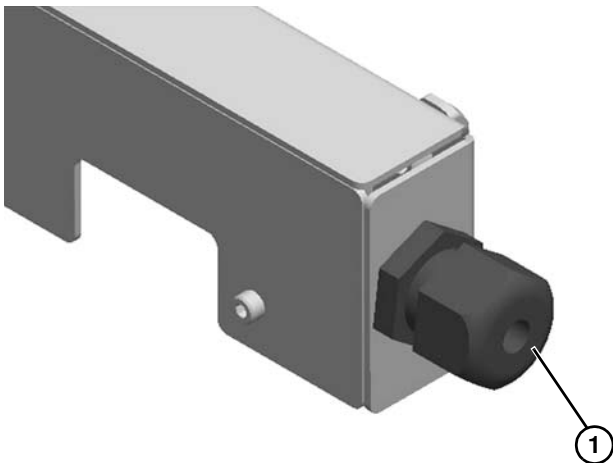

Figure 30
4. For remote controls, a cord grip (Figure 30, item 1) is provided to accommodate 4.3 - 11.4 mm (0.17 - 0.45") diameter cords.